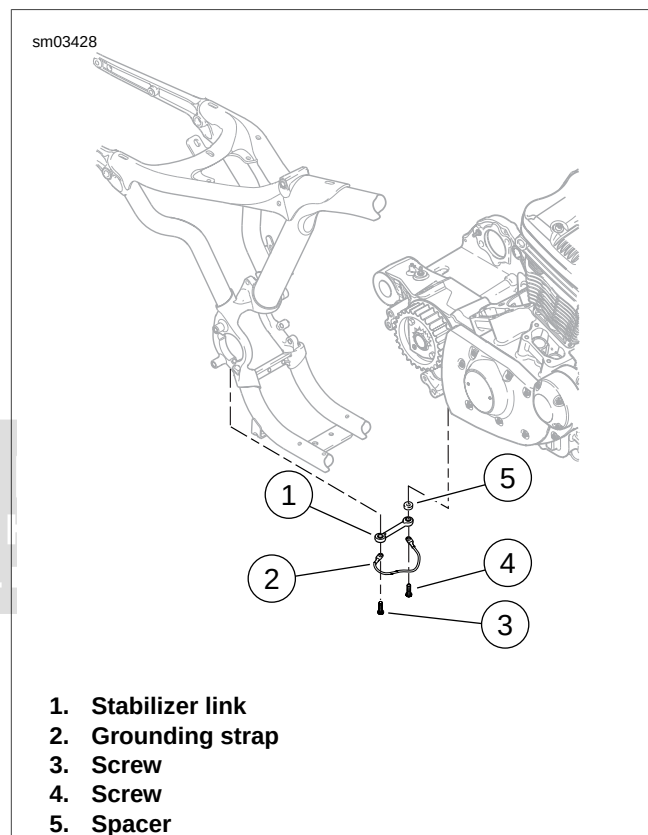

Figure 3-15. Rear Stabilizer Link Assembly: Typical (XL Model Shown)
27. See Figure 3-15. Remove screws (3, 4), grounding strap (2), stabilizer link (1) and spacer (5).